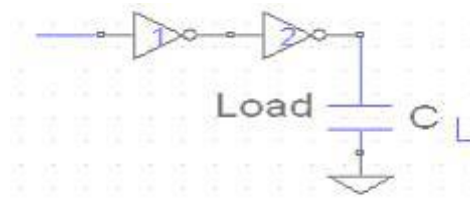

Figure 7
7. Two nMOS inverters are cascaded to drive a capacitive load $C_L = 16 \square C_g$. Calculate the pair delay (V_{in} to V_{out}) in terms of τ for the inverter geometry indicated in figure 7. What are the ratios of each inverter? If strays and wiring are allowed for, it would be reasonable to increase the capacitance to ground across the output of each inverter by $4 \square C_g$. What is the pair delay allowing for strays? Assume a suitable value for τ and evaluate this pair delay. [16]